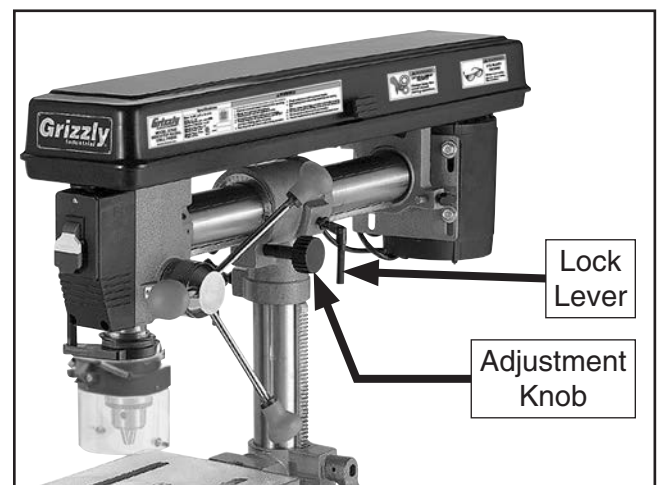

Figure 34. Controls for forward/backward headstock travel.
1. Loosen the lock lever located on the right side of the headstock (see **Figure 34**).
2. Turn the adjustment knob (see **Figure 34**) to move the headstock forward/backward to the desired position.